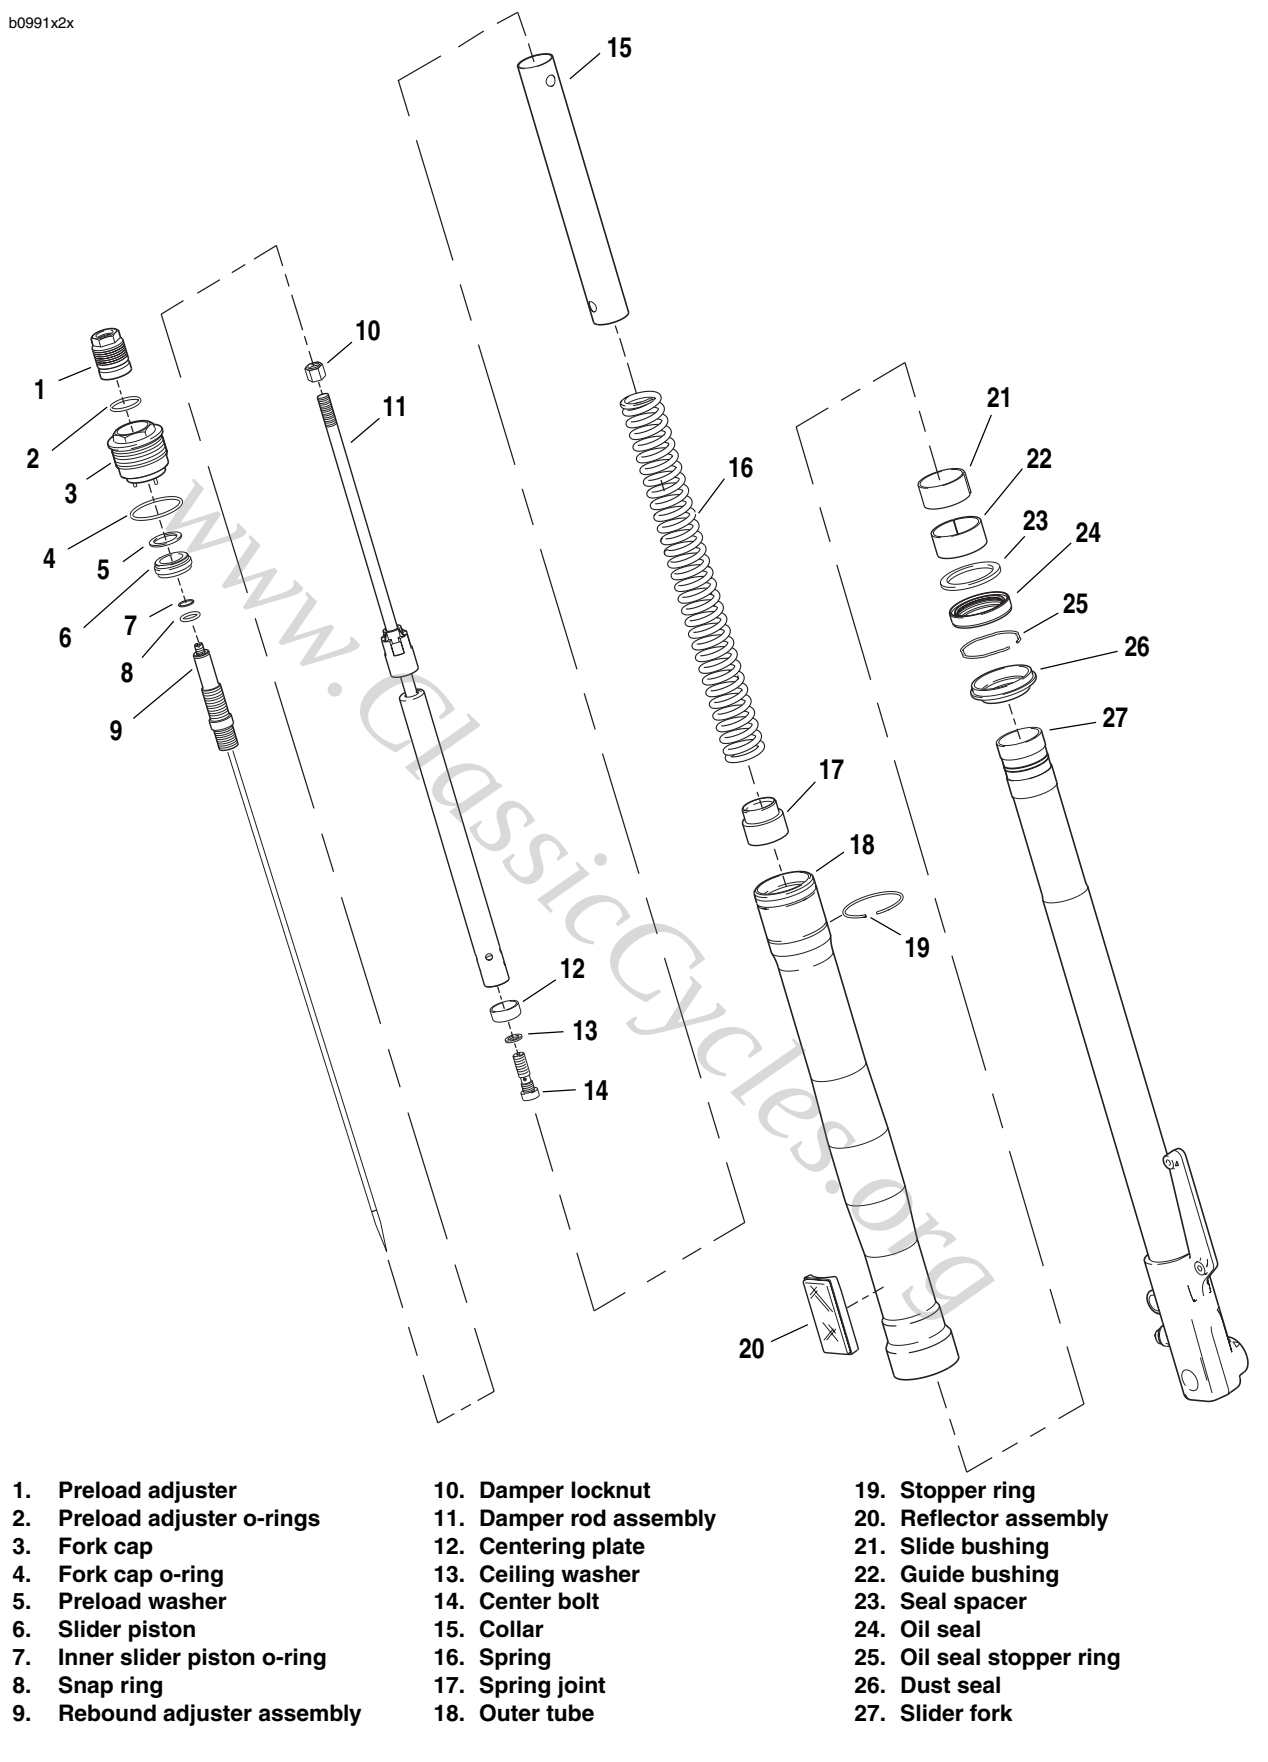
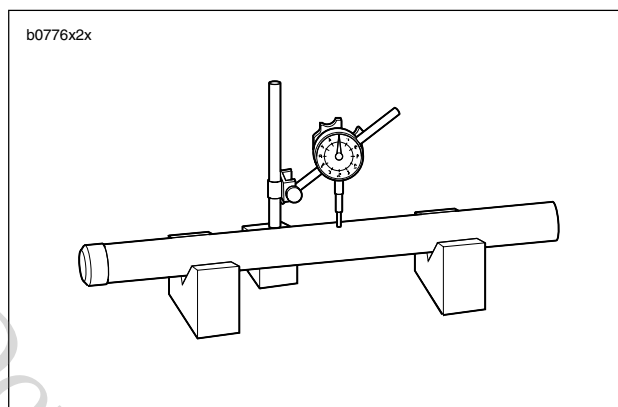

Figure 2-69. Front Fork Assembly
Figure 2-70. Slider Fork Runout
10. See Figure 2-69. Over drain pan, spring collar (15), remove spring (16) and drain fork oil.
11. Drain remaining fork oil by pumping the damping rod (11) approximately 8 to 10 times or until damping rod moves freely.
- **See Figure 2-69. Disassembly of damper rod is not required unless damper locknut (10) has been moved. If damper rod needs servicing refer to the Parts Catalog for kit information.**
1. See Figure 2-69. Lightly turn the rebound adjuster screw on top of the rebound adjuster assembly (9) counter clockwise till it stops.
2. Holding the damper locknut (10), unscrew the rebound adjuster assembly (9) and remove from damper rod assembly (11).
3. Remove damper locknut (10) from damper rod assembly (11).
2. See Figure 2-69. Check the slider fork (27) and outer tube (18) for score marks, scratches and excessive or abnormal wear. Replace if worn or damaged.
3. Check the slide bushing (21) and the guide bushing (22) for excessive wear or scratches. Replace if damaged or worn.
4. Replace the stopper ring (19) if distorted.
5. Measure spring (16) free length. Replace springs shorter than service wear limit of 14.31 in. (363.6 mm).
6. See Figure 2-70. Measure slider fork runout. Replace pipe if runout exceeds the service wear limit of 0.008 in. (0.2 mm).
1. See Figure 2-69. Fully thread the damper rod locknut (10) on to damper rod (11) clockwise till it lightly bottoms.
1. See Figure 2-69. Wrap the end of the slider fork (27) and the slide bushing channel with tape to avoid damaging the oil seal lip when installing.
2. Install a **new** dust seal (26) and stopper ring (25) onto the slider fork (27).
3. Coat the sealing lips of the **new** oil seal (24) with fork oil or sealing grease and install onto the slider fork with its marked side facing the dust seal (26).
5. Install the seal spacer (23), the guide bushing (22) and the slide bushing (21) onto the slider fork (27).
6. Coat the slide bushing (21) and the guide bushing (22) with fork oil.
7. See Figure 2-69. Drive the guide bushing (22) with the seal spacer (23) and oil seal (24) into position in the outer tube using a FORK SEAL DRIVER (Part No. B-43721/41mm) and (Part No. B-42571/43mm). See Figure 2-72.
8. Install the oil seal stopper ring (25) and a **new** dust seal (26).
10. See Figure 2-69. Install the centering plate (12) onto the damper assembly (11) and insert the damper assembly into the slider fork (27).
11. Replace the sealing washer (13) and center bolt (14) (metric). Tighten the center bolt to 22-30 ft-lbs (30-40 Nm).
18. See Figure 2-69. Install spring (16) and collar (15).
23. See Figure 2-69. Thread fork cap (3) into fork tube (18) and tighten to 25 ft-lbs (33.89 Nm).
24. Apply fork oil or light grease to o-rings on preload adjuster and install preload adjuster (3).
25. Install snap ring (2).